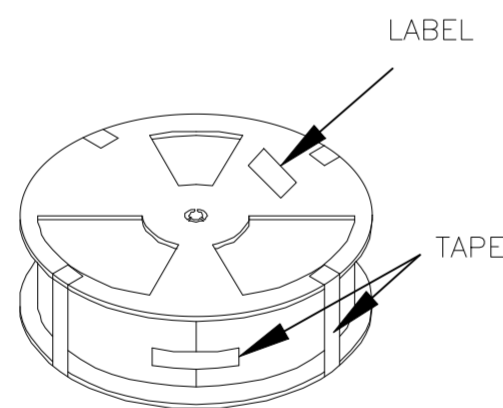

FIGURE 2
2. 22 SPACES SHOULD BE RESERVED FOR THE FINAL CARRIER TAPE OF THE PACKAGING, AND THE LAST END SHOULD BE SELF-ADHESIVE FILM AND CARRIER TAPE CUT IT FLAT AND FIX IT WITH ADHESIVE TAPE. THE EDGE OF THE REEL ALSO NEEDS TO BE FIXED WITH ADHESIVE TAPE. STICK IT ON THE REEL PRODUCT PACKAGING LABEL (ATTACHED TO ONE SIDE OF THE SMALL HOLE ON THE REEL), INDICATING THE PART NUMBER, QUANTITY, AND MANUFACTURING DATE, AS SHOWN IN FIGURE 2 (IF THE CUSTOMER HAS SPECIAL REQUIREMENTS, FOLLOW THE CUSTOMER'S REQUIREMENTS).